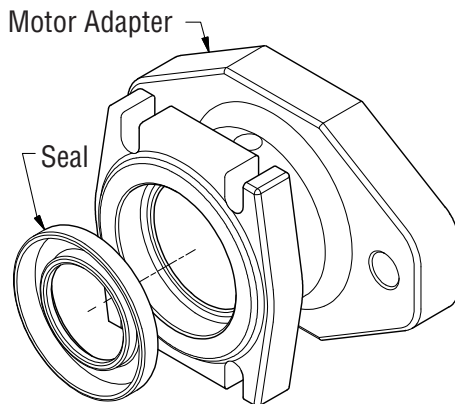

Figure 5-18, Motor Adapter Seal
11. The seal in the motor adapter can now be replaced. (Figure 5-18)